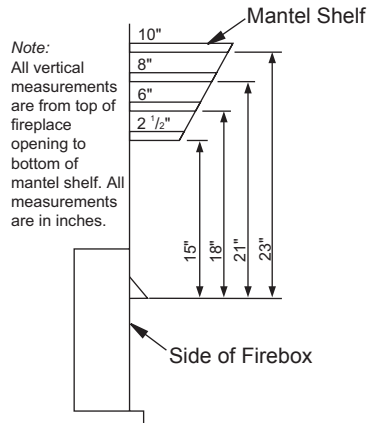

Figure 10 - Minimum Mantel Clearances for Built-In Installation
C. For mantel clearances, see Figure 10 on page 12.
Built-in installation of this fireplace involves installing fireplace into a framed-in enclosure. This makes the front of fireplace flush with wall. An optional trim kit accessory is available (see *Accessories*, page 40). Trim will extend past sides of fireplace approximately 1/2 inch. This will cover the rough edges of the wall opening. If installing a built-in mantel above the fireplace, you must follow the clearances shown in Figure 10, page 12. Follow the instructions below to install the fireplace in this manner.